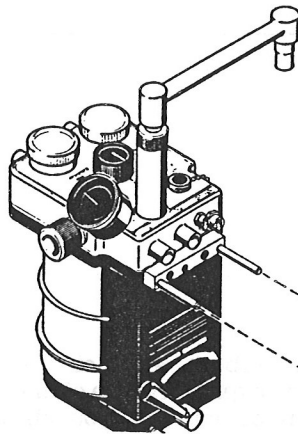

Figure 2-5
1. Align the two square-shaped support guides on the bottom of the bellows assembly with the two support pins on the back of the absorber. (See figure 2-5.)